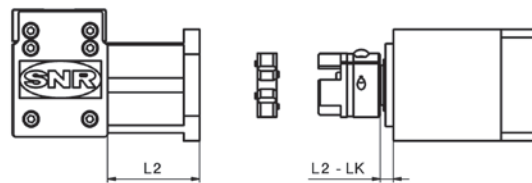

Figure 3.11 \_\_ Mounting dimension
2. Insert the coupling hub **3** on the drive or gearbox shaft **5**. The mounting dimension LK (Figure 3.11) from Table 6.23 in Chapter 6.2.4.1 must be taken into account.